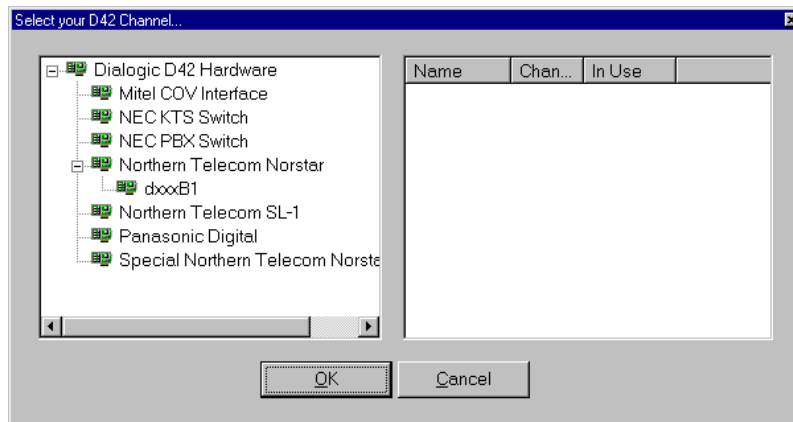

Figure 23. Select Your D42 Channel
11. From the **File** menu, choose **Open**. The *Select Your D42 Channel* window displays, as shown in *Figure 23*.